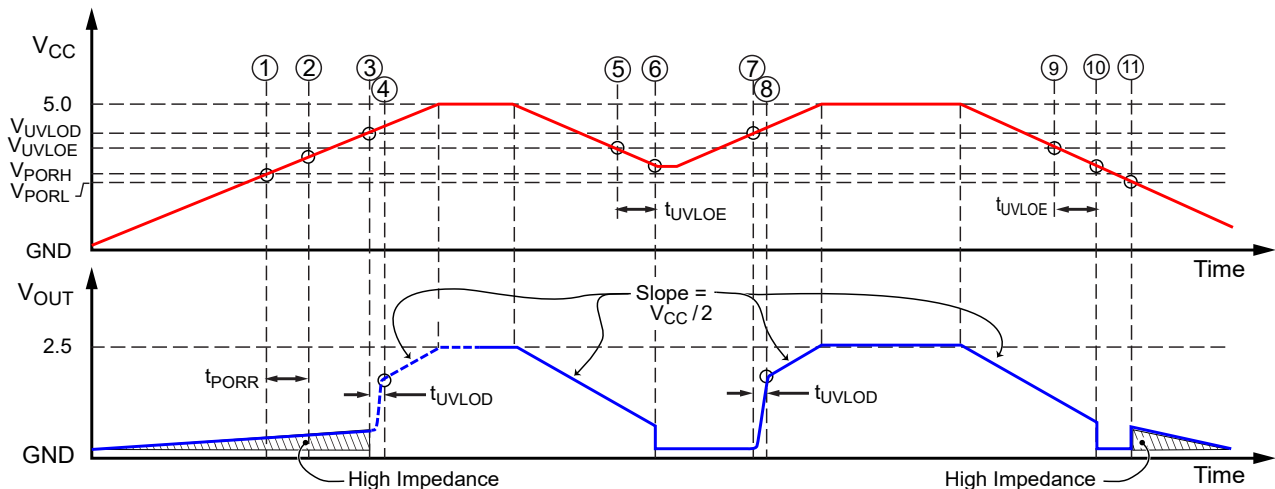
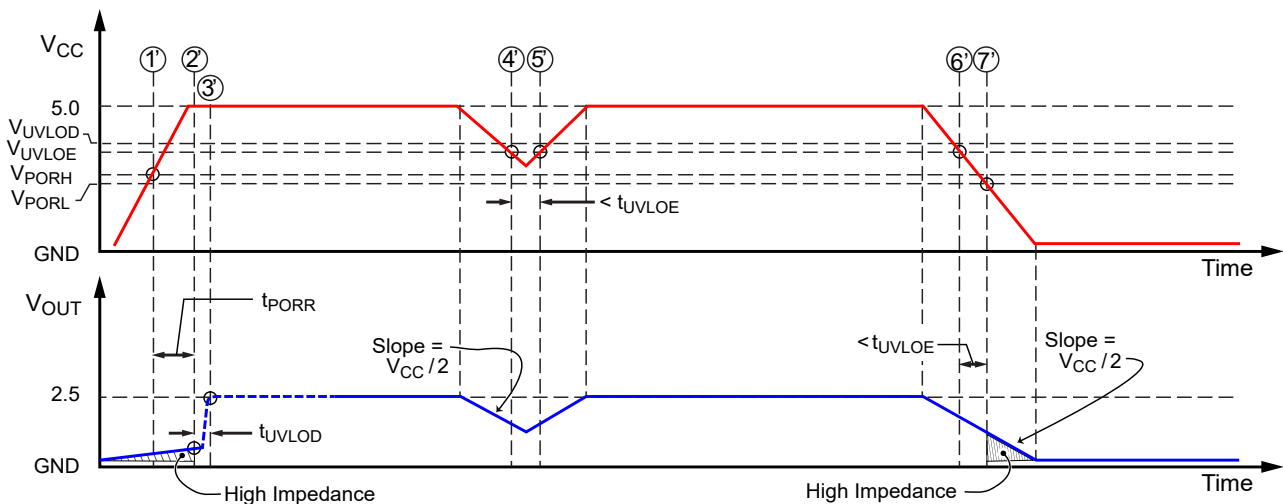

Figure 6: POR and UVLO Operation – Slow Rise Time Case
Figure 7: POR and UVLO Operation – Fast Rise Time Case
- Power-Up.** At power-up, as V_{CC} ramps up, the output is in a high-impedance state. When V_{CC} crosses V_{PORH} (location [1] in Figure 6 and [1'] in Figure 7), the POR Release counter starts counting for t_{PORR} . At this point, if V_{CC} exceeds V_{UVLOD} [2'], the output will go to $V_{CC}/2$ after t_{UVLOD} [3'].